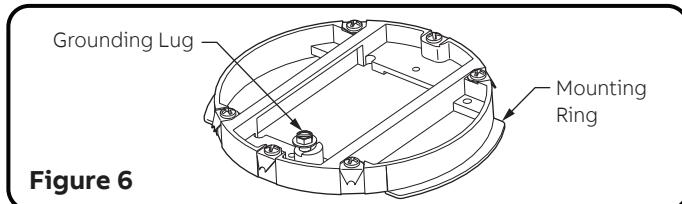

Figure 6
6. Re-insert divider assembly into floor box. Pull power wires up through center of floor box. Pull non-used or (through) wires over ramp and into conduit openings on opposite side of box. Install duplex receptacle device onto mounting ring per device instructions and make electrical connections in accordance with national and local electrical codes. A grounding lug is provided on the underside of mounting ring. Terminate grounding wire to grounding lug when required by device installation instructions or national or local codes (see Figure 6 and 7).